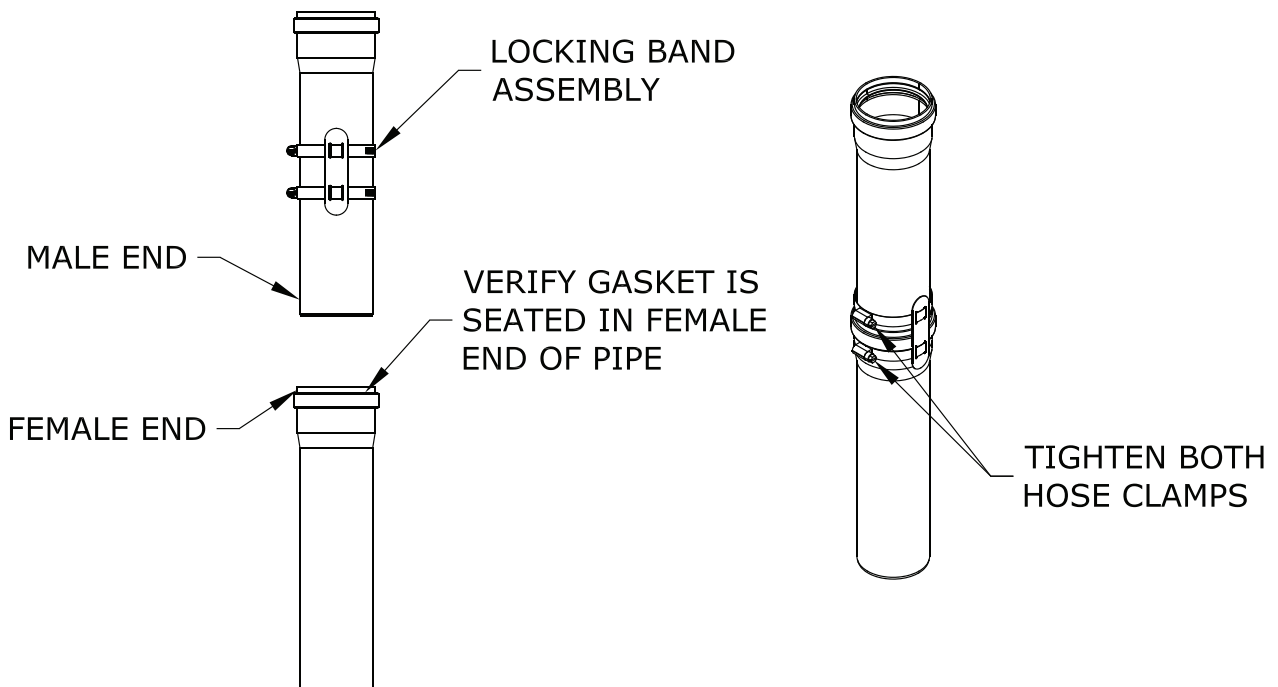

Figure 7.41: Polyflue Pipe Locking Band Installation
- c. For each joint, verify that the gasket is evenly seated in the bell (female) end of the pipe. Lubricate this gasket with mild soapy water. Slide a Pipe Locking Band over the male end of the pipe to be joined as shown in Figure 7.41. Push the male end of the next section of pipe into the bell until it bottoms out, then back out
Figure 7.41. Push the male end of the next section of pipe into the bell until it bottoms out, then back out 1/8—1/4" to provide room for thermal expansion. Slide pipe locking band over the female end of the connections and tighten both hose clamps.